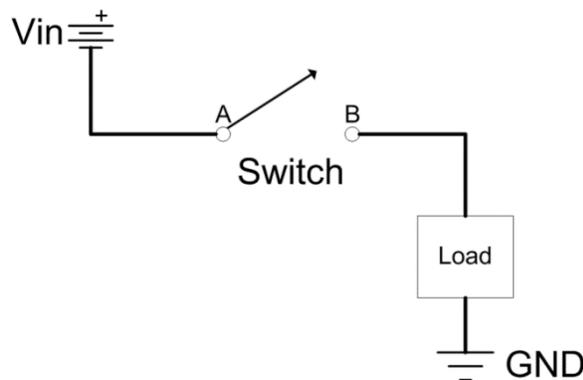

Figure 48: Test Circuit
4. Touch the positive probe of the multimeter to exposed wire near terminal A and ground the negative probe. Figure 48 shows the location of Terminal A.
3. Touch the positive probe of the multimeter to exposed wire near terminal B and ground the negative probe. Figure 48 shows the location of Terminal B.